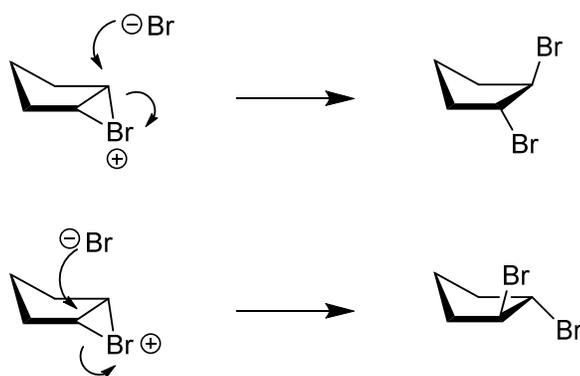

Figure 11-3: The second step involves the bromonium ring being broken open by an attacking halide ion.
Step 2: Nucleophilic attack of bromide anion on the bromonium ion on the *anti*-face on either of the two carbons (Figure 11-3).